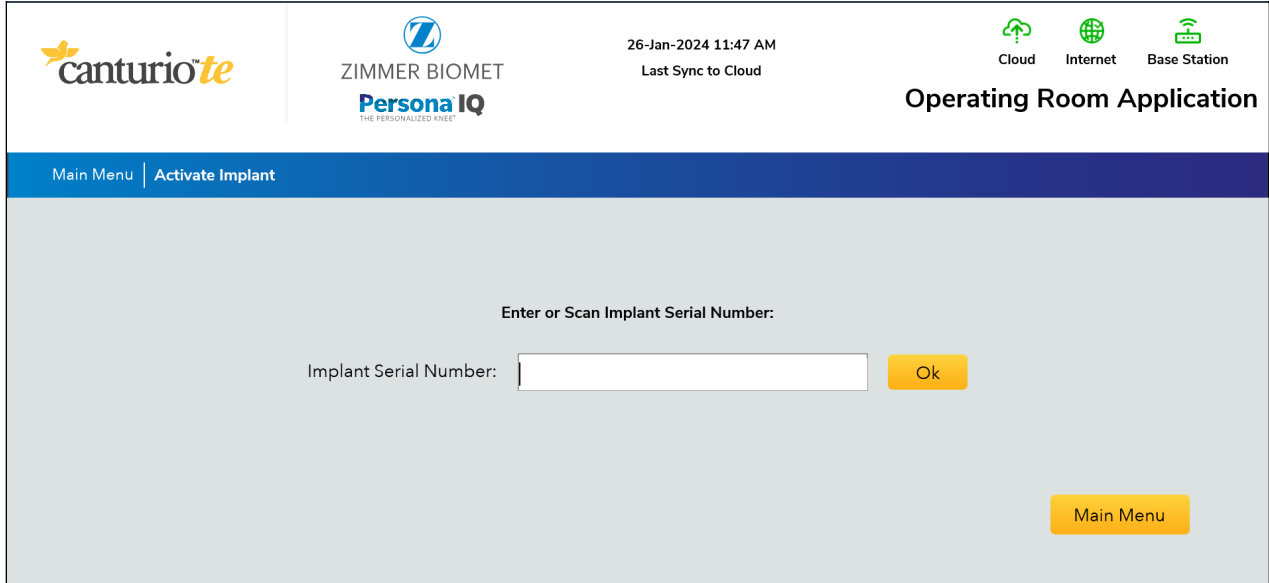

Figure 28: Activate Implant: Enter or Scan Implant Serial Number
8. Click in the text box and enter or scan the Implant Serial Number, then click “OK.” **Figure 28**.